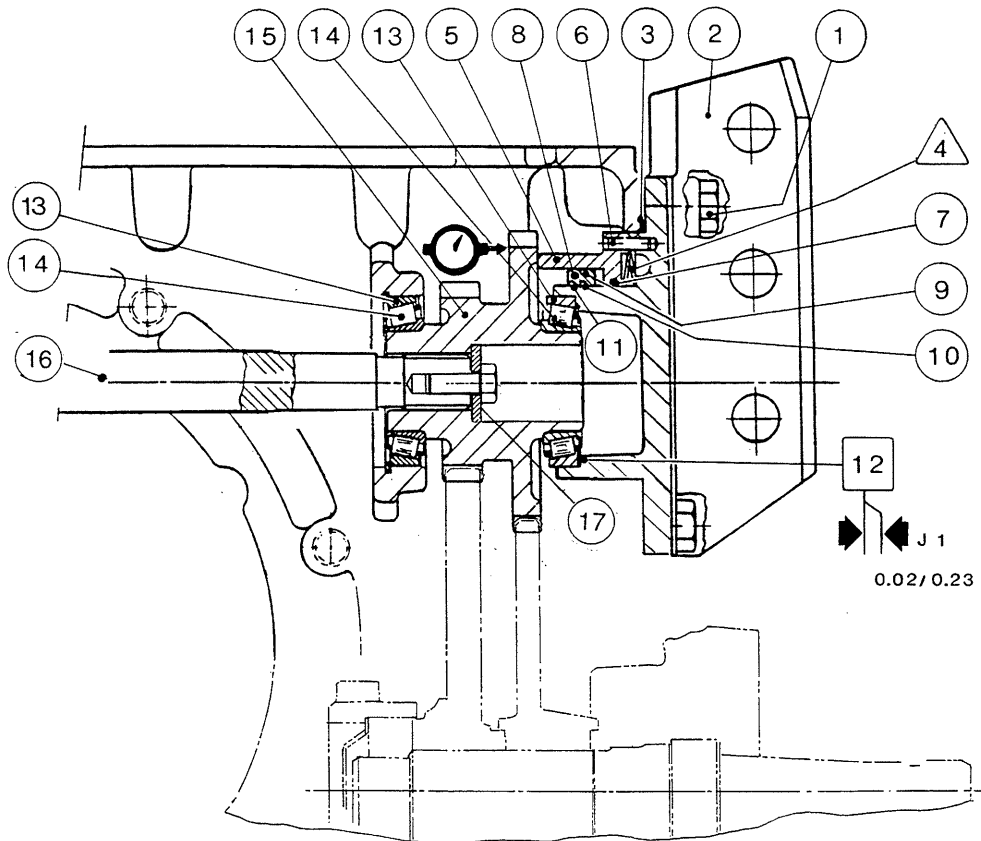

Fig. 1
23. Measure the play, using a dial comparator seated on the face of the driving gear **(15)** (Fig. 1).
**Note: Tighten bolt (17) to a torque of 50 Nm.**